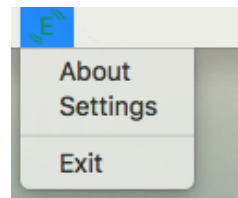

Figure 3 – Elitac HIDCom menu
4. Click on the Elitac *HIDCom* icon and right-click on “Settings”. Figure 3
4. Click on the Elitac *HIDCom* icon and click on “Settings” Figure 3
4. Click on the Elitac HIDCom icon and click on “Settings Figure 3